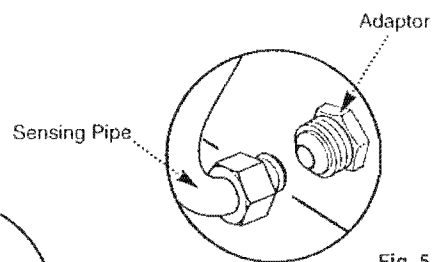

Fig. 55
5. Undo the nut on the sensing pipe at the adaptor (Fig. 55).